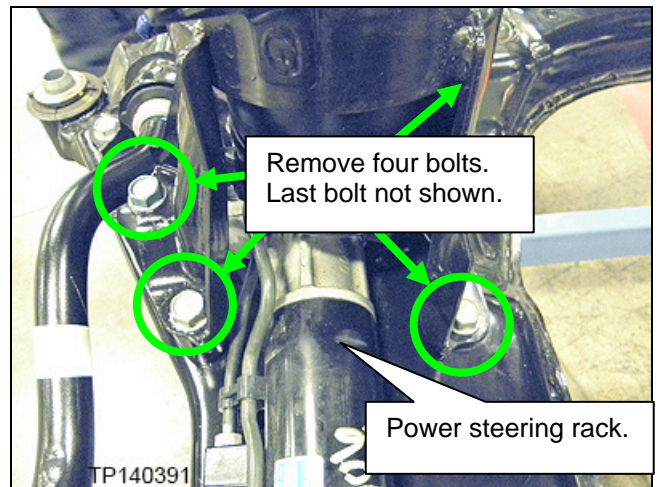

Figure 26
- The left rear of the engine cradle shown from the top in Figure 26.